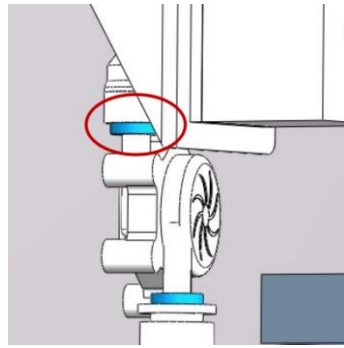

Figure. 2
2. Press the blue part of the connector in the red circle to separate the float flow meter from the pipeline below, as shown in Figure.2